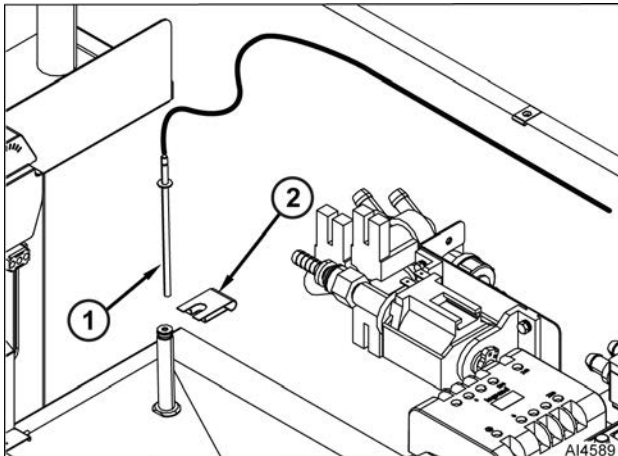

Fig. 35
3. Remove holding clip (2, Fig. 35) and cavity temperature probe (1, Fig. 35).